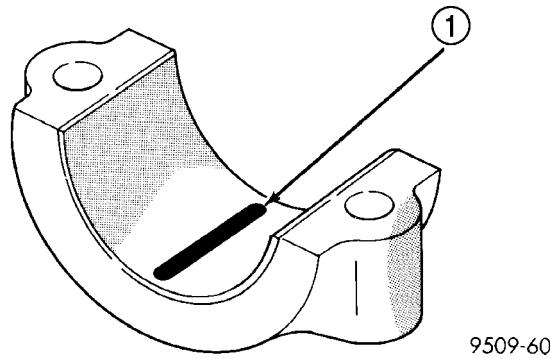

Fig. 70 Plastigage Placed in Lower
(2) Alternative Method:
(3) Remove oil film from surface to be checked. Plastigage is soluble in oil.
(4) Place a piece of Plastigage across the entire width of the bearing shell in the cap approximately 6.35 mm (1/4 in.) off center and away from the oil holes (Fig. 70). (In addition, suspected areas can be checked by placing the Plastigage in the suspected area). Torque the bearing cap bolts of the bearing being checked to the proper specifications.
(1) With engine in the inverted position (crankshaft up) and mounted on a repair stand, remove main journal cap.
(2) Remove oil from journal and bearing shell.
(3) Cut Plastigage to same length as width of the bearing and place it in parallel with the journal axis (Fig. 70).
(4) Carefully install the main bearing cap and tighten the bolts to specified torque.